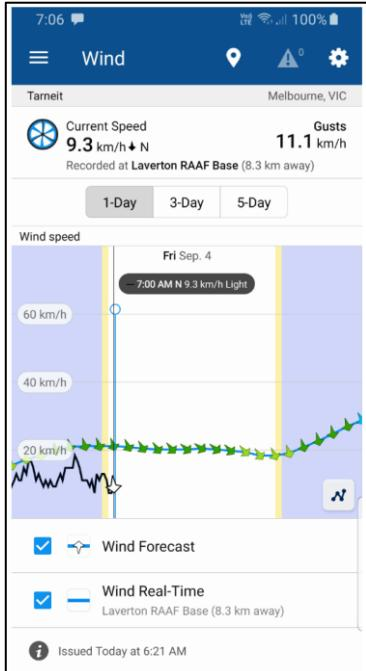

Figure 6– Willy Weather – Weather forecast app
- High winds (Speed of 40 km/h or greater – Refer: 4.3 Weather and Site Conditions, Table 2, Figure 6 - Willy Weather app);
High Winds – Speed of 40 km/h or greater	The Tip Head shall move to a watch and act status. Site management is to be notified. <ul style="list-style-type: none">Consultation between Site Management and Tip Head personnel, regarding actions to be implemented shall be noted in the Tip Head Logbook. Additional items to consider; <ul style="list-style-type: none">Monitor wind strength and direction to assess actions that may be required – refer to figure 6 Willy Weather app,Alter tipping direction for wind direction,Restrict higher risk tasks (i.e. Semi Tippers, Quad Dogs),Restrict number of trucks tipping on Tip Head,Close Tip Head to Tipping